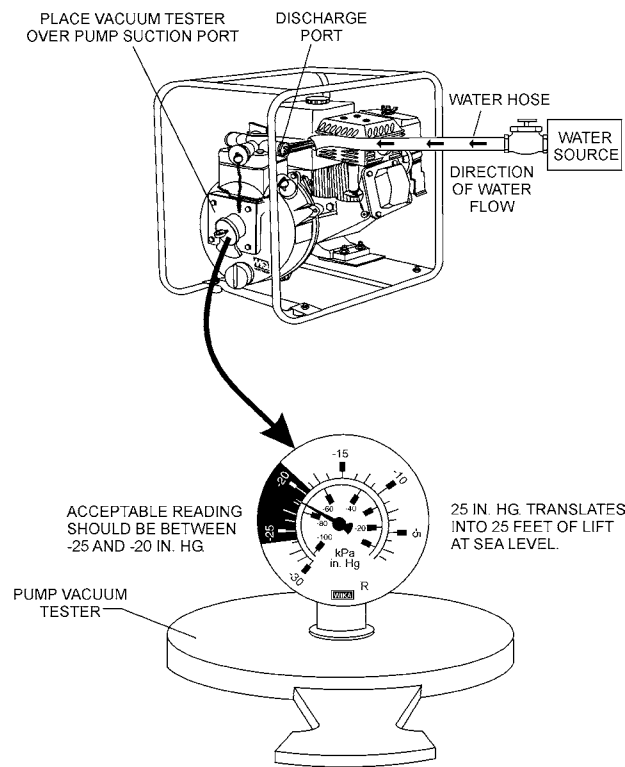

Figure 19. Pump Vacuum Test
6. Place a water hose inside the discharge opening of the pump, and turn on the water (Figure 19). The flow of water into the discharge opening will prevent the pump from running dry.
7. Place the pump vacuum tester (P/N 7000030) over the pump suction (inlet) opening with the vacuum gauge facing upwards. It may be necessary to apply a small amount of water around the rubber seal of the vacuum tester to produce good suction. See Figure 19.